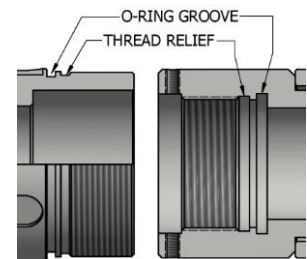

Fig. 3
**CAUTION7:** To ensure tool operates properly, install o-rings in o-ring grooves **NOT** thread reliefs (Fig. 3).